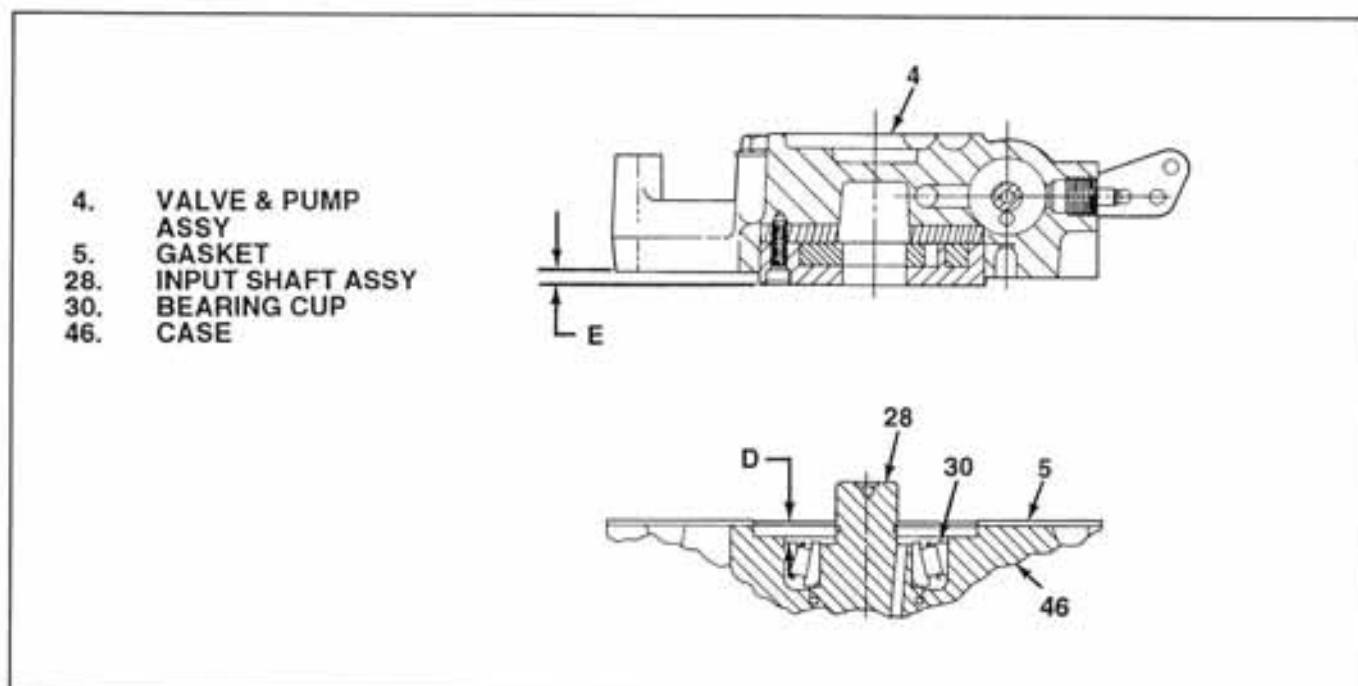

Figure 5-23. Determining Input Shaft Bearing Shim Thickness
d. Select shim(s) of thickness $T_1 \pm 0.0010 \text{ in. } (\pm 0.025 \text{ mm})$ and install on face of bearing cup (30) at lay shaft. Install thinnest shim(s) down against bearing cup, thickest shim(s) up to bear against valve and pump assembly (4) when installed.
2. With gasket (5) in position on pump mounting face of case (46), determine thickness of shim(s) (6) to be used at input shaft bearing as follows:
a. Push down firmly on input shaft assembly (28) and bearing cup (30) (see figure 5-23) to make sure parts are seated.
b. Measure and record dimension D as shown in figure 5-23 [from top face of gasket (5) to top face of bearing cup (30)].
c. On valve and pump assembly (4), measure and record dimension E as shown in figure 5-23.
d. Calculate T_2 , the thickness of shim(s) (6) required at input shaft bearing, as follows: